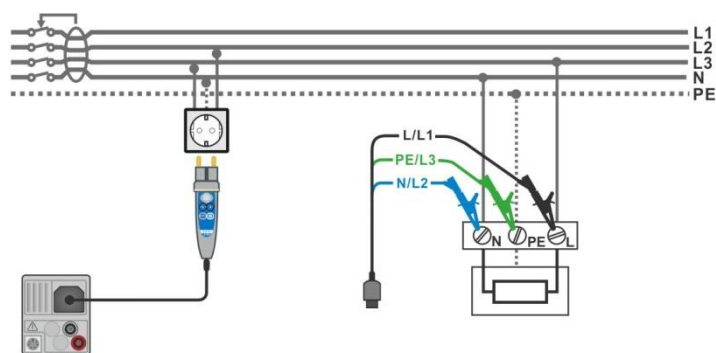

Figure 7.27: Connecting the Plug commander and the 3-wire test lead
- Connect test leads or Plug commander to the object under test, see **Figure 7.27**.
- › Connect test leads or Plug commander to the object under test, see **Figure 7.27**.
<ul style="list-style-type: none"> Enter the RCD Auto function. Set test parameters / limits. Connect test cable to the instrument. Connect test leads or Plug commander to the object under test, see Figure 7.27 Start the measurement. 	Start of test